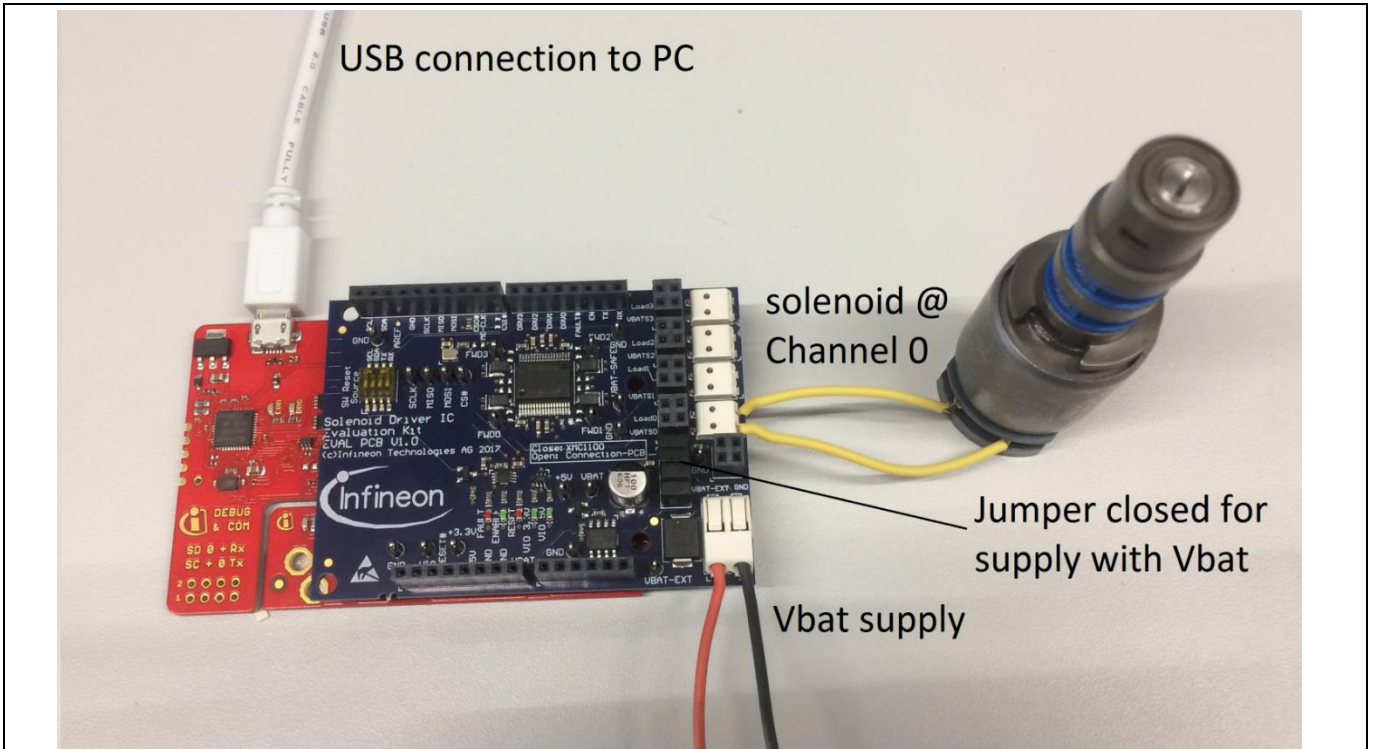

Figure 8 Setup example for Version S (XMC1100 Boot Kit with TLE92464ED Evaluation board)
In Figure 8 a basic setup for the Version S of the Evaluation Kit is shown. On the external supply connector the voltage for V_{bat} in the range of 5.5V up to 40V can be provided. The output channels are supplied with V_{bat} by closing the Jumper JP1 (refer Table 5). If the XMC1100 microcontroller is flashed with the Commando Interpreter software the TLE92464ED can be controlled via the USB connection by the PC. The USB connector can also be used to flash and debug own embedded software. It is recommended to use the DAVE IDE for programming XMC microcontrollers (<https://www.infineon.com/cms/de/product/microcontroller/32-bit-industrial-microcontroller-based-on-arm-registered-cortex-registered-m/dave-version-4-free-development-platform-for-code-generation/channel.html?channel=db3a30433580b37101359f8ee6963814>).
- XMC: Plug a 12V supply into VBAT_EXT and GND and connect the XMC board via the USB connector to the computer (see Figure 8)